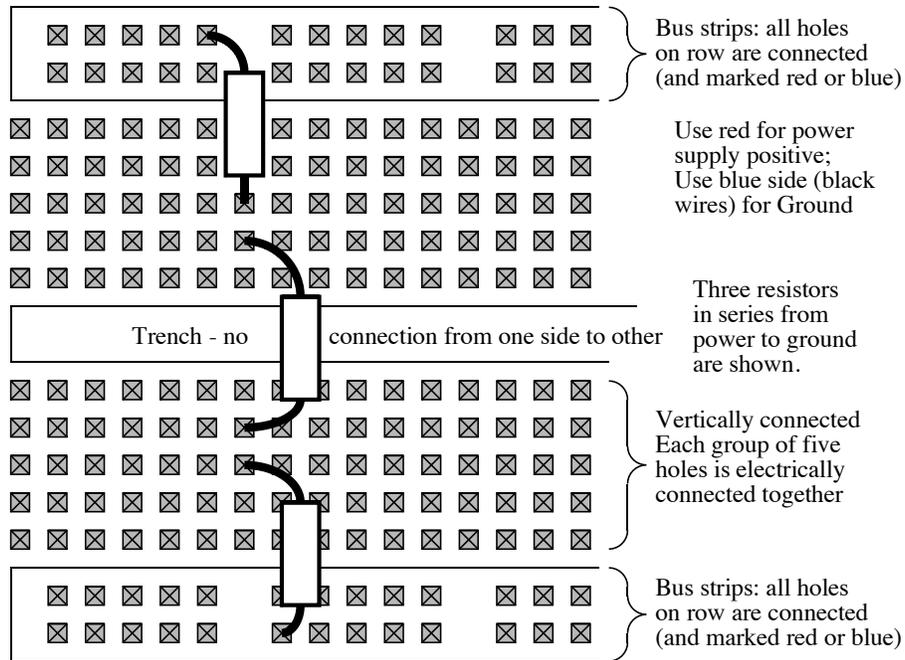

Figure 1.4 Breadboard Connections
**Note: Use your solderless breadboard to construct the circuit. Think carefully about the connections between the holes on the same and different rows. It is too easy to insert a resistor such that it simply connects both ends together, creating a zero Ohm resistance. See Figure 1.4**